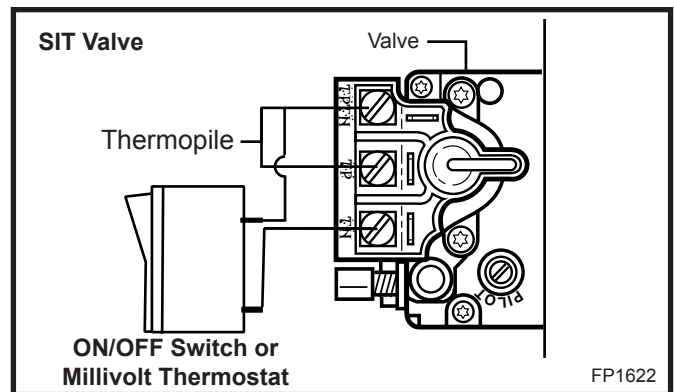

Fig. 16 Install wiring to switch before connecting to valve.
3. Attach wires to valve terminals. (Fig. 16)
2. Connect the thermostat wires to the valve. (Fig. 16)